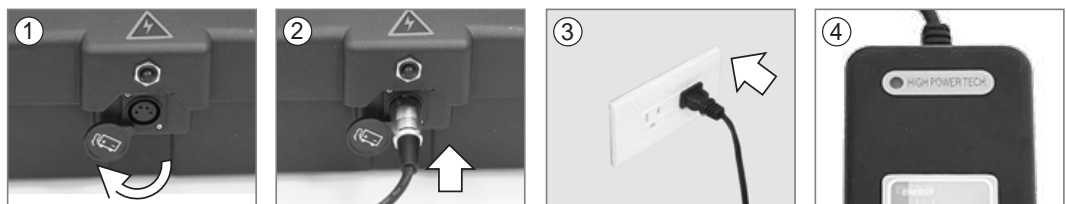

Figure 26
- Battery Box Charge Port (Figure 26)